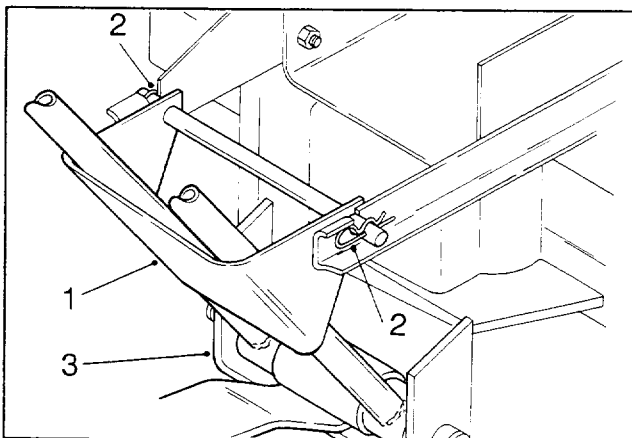

Figure 12
1. Lower the quick-attach bracket into the notches in the support brackets on the tractor frame and onto the drawbar hitch (Fig. 12).
2. Install the two hairpin cotters through the holes in the quick-attach bracket (Fig. 12). You may need to move the brackets upward to get the hairpin cotters through the holes.